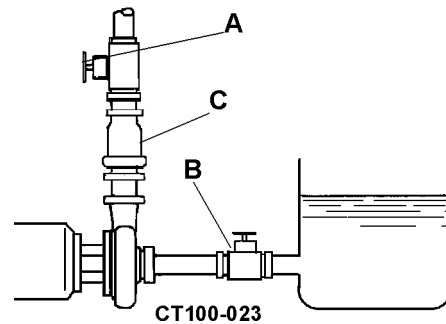

Figure 12 - Pump Below Supply
1. Fill supply tank with liquid; open supply line valve (suction) (See Figure 12 item B).
2. Vent any air trapped in supply line or casing by opening the discharge valve. (See Figure 12 item A).